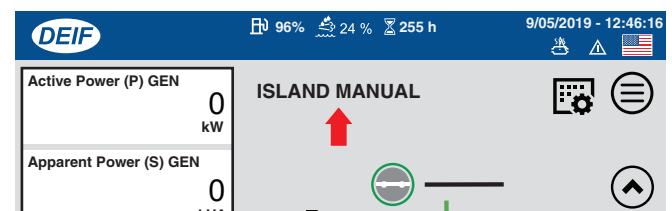

Figure 73. Status Message (ISLAND MANUAL)
3. Verify that the message **ISLAND MANUAL** is shown on the touch display (Figure 73).